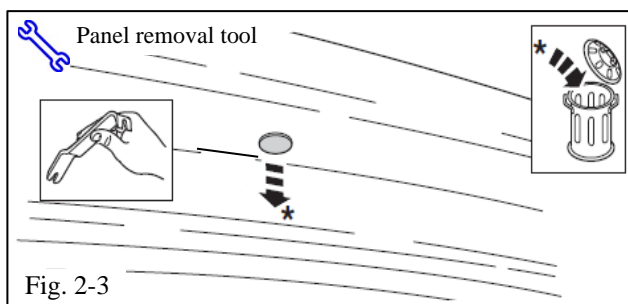

Fig. 2-3
- (d) Use a plastic prying tool to remove the 4 caps and discard them (Fig. 2-3).